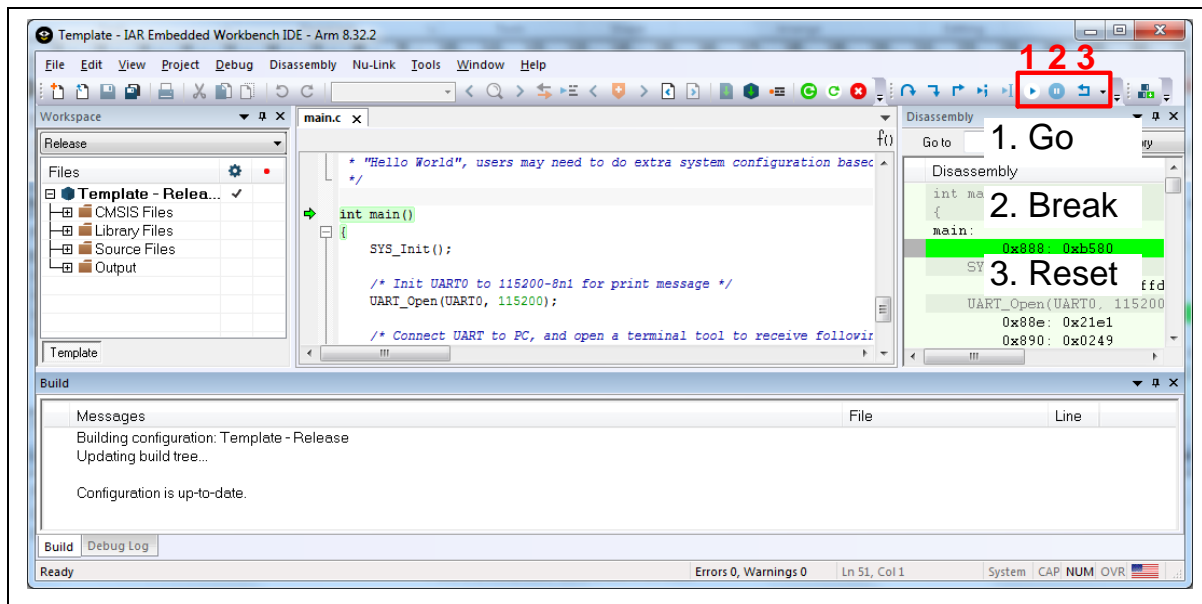
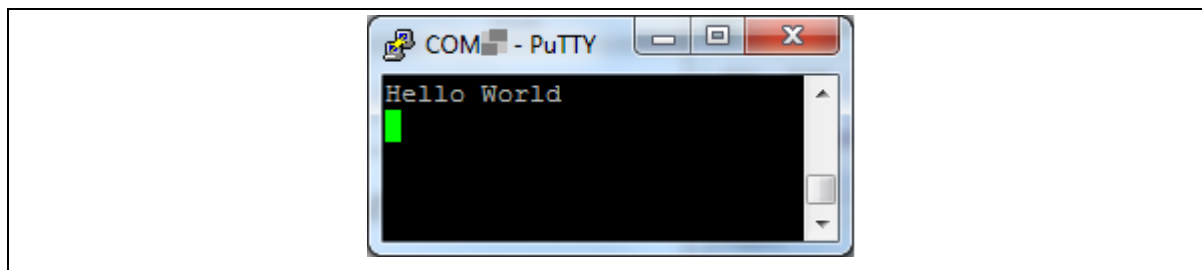

Figure 4-17 IAR EW8051 Debug Mode
Figure 4-18 Debug Message on Serial Port Terminal Windows
4. Figure 4-17 shows the debug mode under IAR EW8051. Click “Go” and the debug message will be printed out as shown in Figure 4-18. User can debug the project under debug mode by checking source code, assembly language, peripherals’ registers, and setting breakpoint, step run, value monitor, etc.